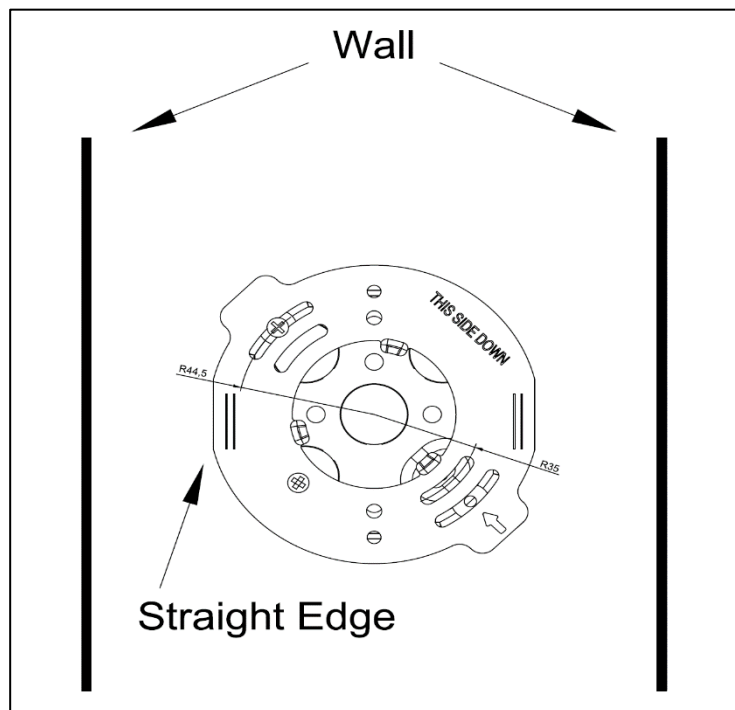

Figure 4
4. Use the provided #8 Screws to secure the Mounting Bracket flush to the ceiling by fastening them to the Junction Box. There are two mounting hole slots with diameters of **2.75 inches** and **3.5 inches** to accommodate different J box sizes. Ensure that the side of the mounting bracket with the text “**THIS SIDE DOWN**” faces the floor. If installing a **Square Saturn** fixture, use the **straight edges** of the mounting bracket to align it. To align a **square fixture** parallel to a particular **wall**, ensure that the straight edge of the bracket runs **parallel with the wall**, as shown in *Figure 4*.